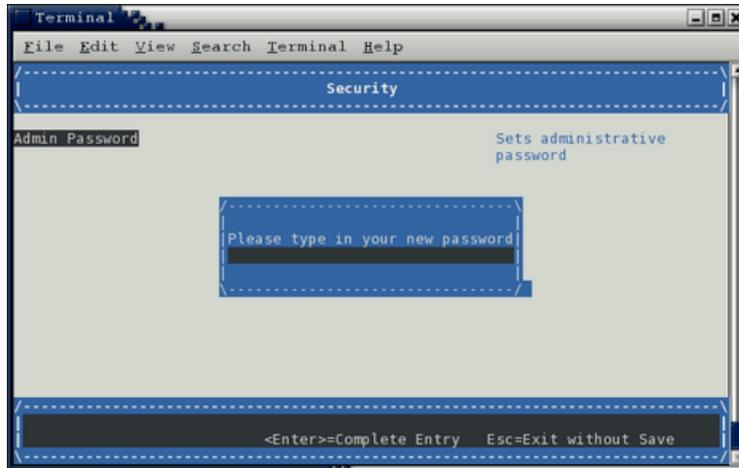

Figure 4-5 Security Screen for Setting Administrative Password
3. From the boot manager screen, select **Device Manager**, as shown in Figure 4-5 on page 55.
6. From the **Security Admin Password** screen, enter the new administrative password, as shown in Figure 4-5 on page 55.